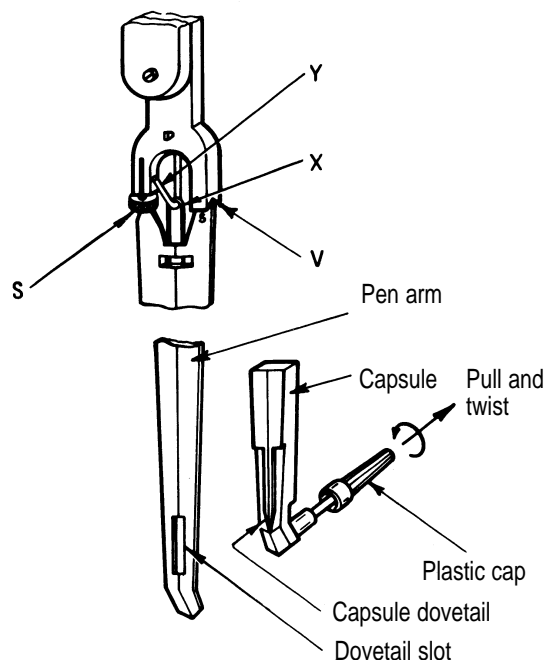
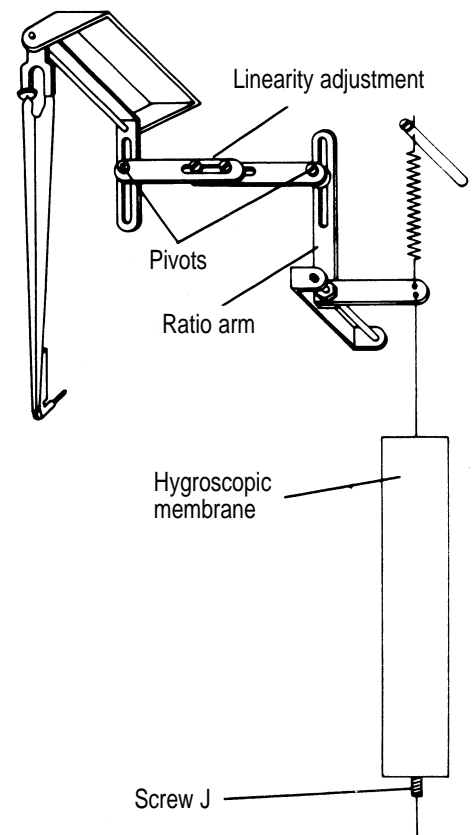
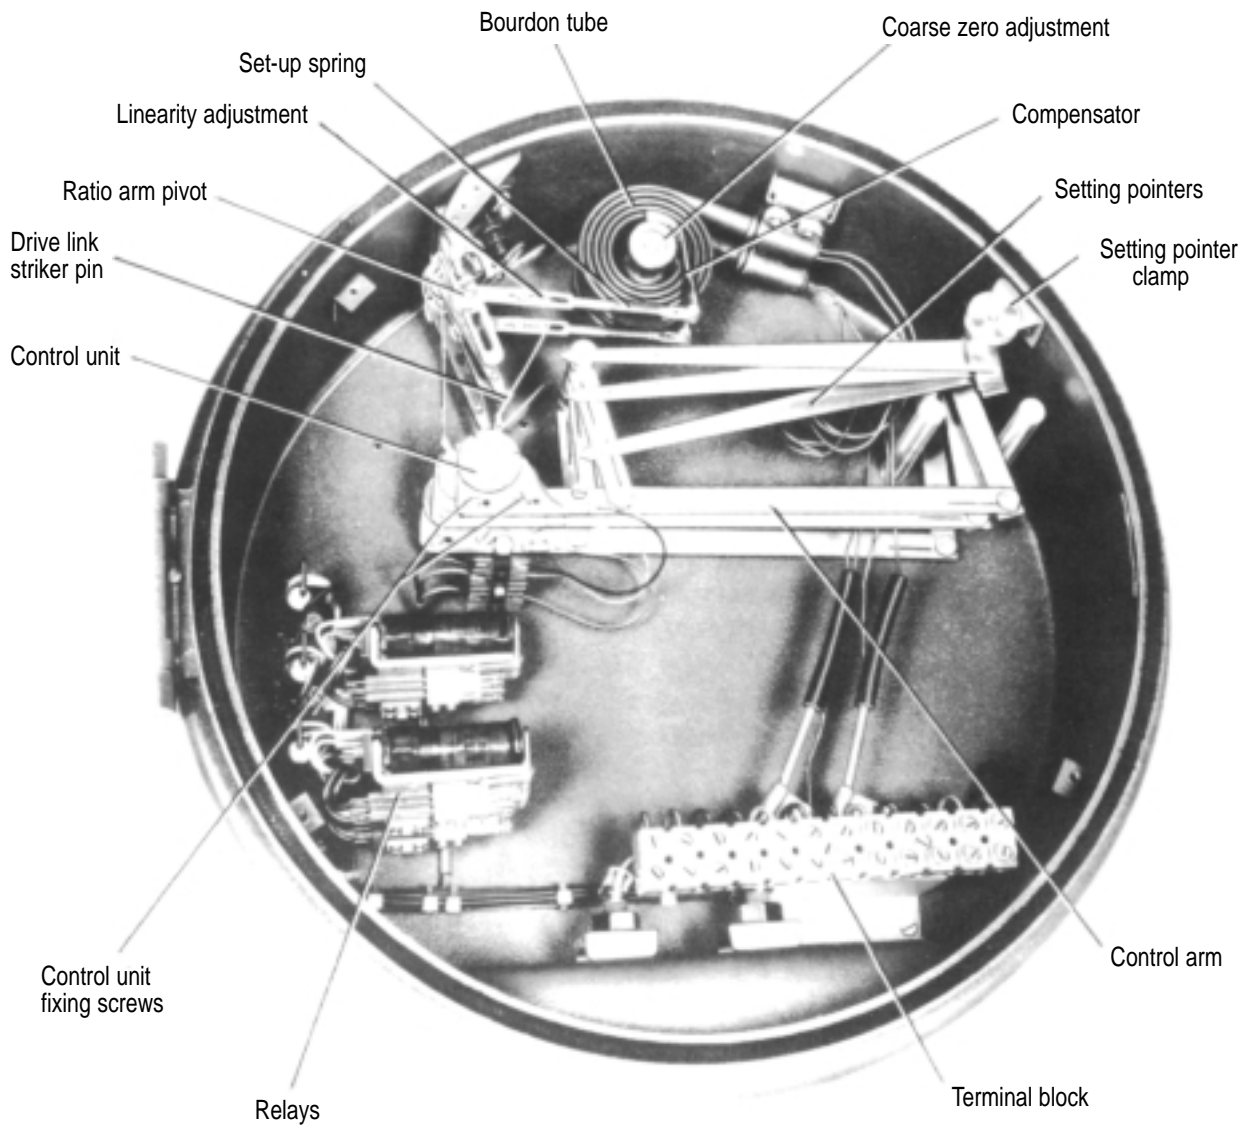
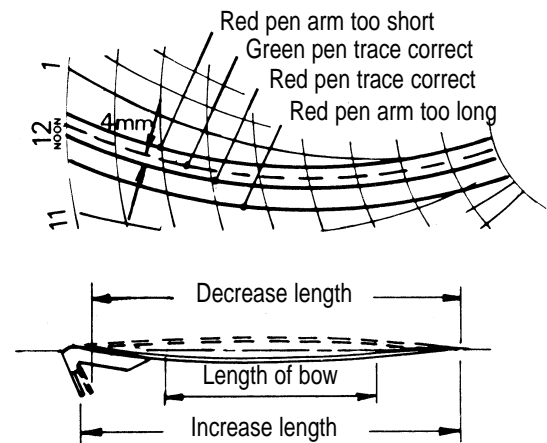

Fig. 3
Fig. 4
Fig. 5
Fig. 9
For access to the relays and measuring systems, first remove the chart. Unhook the pens from their mounting (see Fig. 3.). Remove the three screws from the outside edge of the chart plate. (The pen lifter is secured by one of these screws and must also be removed). Lower the chart plate carefully. The chart motor is mounted on the back of the chart plate and if the motor is an electric one it remains connected to the terminal block in the lower part of the case.
To set the desired alarm/control point slacken the clamping knob at the right-hand end of the setting pointer (Fig. 5), position the pointer on the desired value and re-tighten the clamp.
All instruments are calibrated against a standard thermometer before despatch but should be checked in case of slight disturbance during transit. Immerse a standard thermometer with the bulb and check the readings. If adjustment is necessary open the door and rotate the small knurled screw S (in Fig. 3.) to bring the pen to the correct reading.
The zero setting may be adjusted using screw S (Fig. 3). If the humidity reading requires more correction than that provided by S, screw J, accessible through the bottom of the guard, may be adjusted (Fig. 4).
Temperature recorder (see Fig. 5.)
Temperature and humidity recorder (see Fig. 4)
The set up spring (also shown in Fig. 5.) is used if the measured variable is liable to go significantly below the chart zero reading, e.g. on a temperature recorder calibrated 100–600°C where the measuring element is subject to normal ambient temperatures during transit. Under these conditions the movement of the Bourdon tube compensator extends the spring allowing the pen mechanism to rest against the zero stop.
Each relay is switched by a contact mounted on an arm linked to the setting pointer which makes or breaks with a contact attached to the recording pen linkage when the pen reaches the set point (see Fig. 5.). The striker is fixed relative to the pen arm and a spring loaded contact is fitted to the setting pointer linkage. One set of changeover contacts is available for external connection for each set point. The contacts are usually labelled “normally closed” (NC), “common” (C) and “normally open” (NO) where normally means that no current is flowing through the relay coil. Refer to page 14 for any special wiring information.
If the measured value indication is correct and the relay operates at a value other than that shown by the setting pointer, the error may be corrected as follows. Move the setting pointer to the indicated value. Switch off the electrical supply to the recorder and remove the chart, pens and upper chart plate. Slacken the two nylon screws on the control unit (see Figs. 5 and 7) and slide it along the control arm until the sprung contact just touches the fixed contact. Re-tighten the screws and replace the chart plate etc. Check the relay now operates at the desired set point.
The pen lifter must be below the arm before the clock is started. If the pen is bent, the effective length of the pen arm will be altered so that the pen will not record the correct time at all temperatures. If when the chart is stationary the time increases as the pen moves towards the outside of the chart, the pen arm is too long, and vice versa, see Fig. 9. The error can be corrected by careful straightening of the pen or by bowing the pen arm slightly. Adjust the pressure if necessary by bending the hook Y in Fig. 3.
1. Allow recorder to stabilise with measuring element in a low temperature (or pressure) just above scale minimum. Pen should record within $\pm 1\%$ of span of correct value. If necessary adjust zero screw S, Fig. 3. If pen is significantly out of line with cockpiece, i.e. more than about 5 angular degrees, adjust screw S to line up pen with cockpiece. Loosen the coarse zero adjustment screw holding the serrated compensator carrier, Fig. 5. and adjust pen to record true value, making a fine adjustment on screw S after the coarse zero adjustment screw has been re-tightened.
2. Allow the recorder to stabilise with measuring element in high temperature (or pressure) just under scale maximum. Pen should record within $\pm 1\%$ of span of correct value. If not, adjust by moving the link connecting the compensator arm to the ratio arm on the cockpiece, see Fig. 5. In order to move the link, loosen the nut at the back of the ratio arm pivot. Raising the pivot will increase the pen movement and lowering the pivot will reduce the movement. Re-tighten after adjustment.
1. Allow the recorder to stabilise with the measuring element in a low ambient R.H. Pen should record within $\pm 2\%$ R.H. of correct value. If not, adjust zero screw J Fig. 4, in the mounting of the humidity element.
2. Allow the recorder to stabilise with the measuring element in a high ambient R.H. Pen should record within $\pm 2\%$ R.H. of correct value. If not, adjust by moving the position of the link pivot on the cockpiece ratio arm, Fig. 4. In order to move the link loosen the nut at the back of the pivot. Raising the pivot will increase the pen movement and lowering the pivot will reduce the movement. Re-tighten after adjustment.
Linearity adjustments are only likely to be needed if a measuring element has been replaced. Switch off the electrical supply to the recorder. Follow the appropriate calibration procedure making an additional calibration check at approximately centre span after the instrument has been adjusted to record correctly at high and low readings. If necessary, slightly adjust the length of the connecting link (see Figs. 4 and 5). To gain access to the connecting link remove the chart, pens and upper chart plate as described under **Access to Recorder**. After adjusting the length of the link replace the chart plate, etc. recalibrate at high and low readings and then repeat the centre span calibration check. Continue to make adjustments in this order until the record at all three points is within specification.